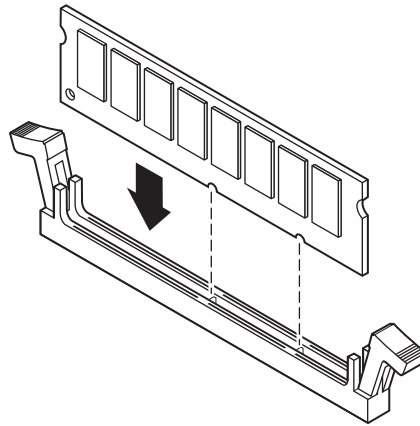

Figure 17: Inserting the DIMM
4. Align the two notches in the DIMM with the two notches in the DIMM socket (see Figure 17) and insert the DIMM into the socket.